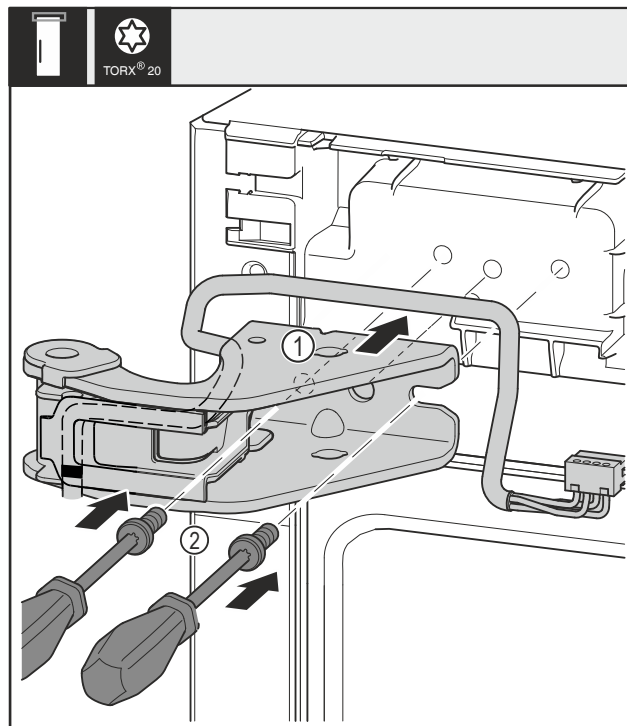

Fig. 32
- Place the top swap bearing block Fig. 32 (1).
- Use screwdriver to insert the screws Fig. 32 (2) and tighten them.